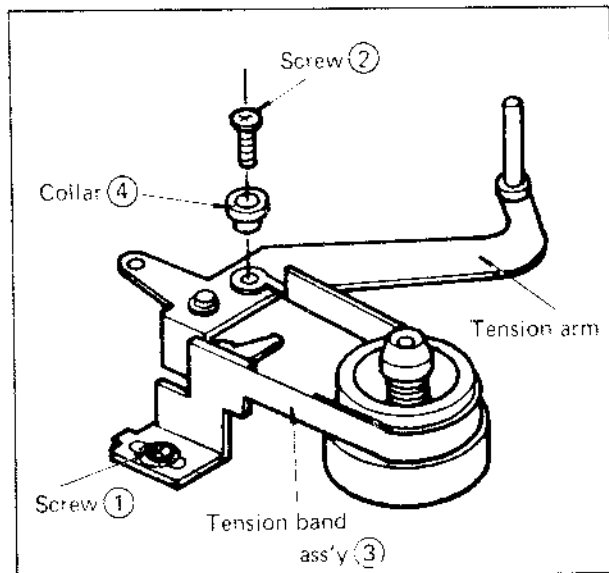

Fig. 5-18(a) Tension band replacement
2. Remove screws (1), (2) and tension band assembly (3) from the chassis as shown in Fig. 5-18 (a).
3. Install the new tension band ass'y and collar (4), then tighten screws (1) and (2).